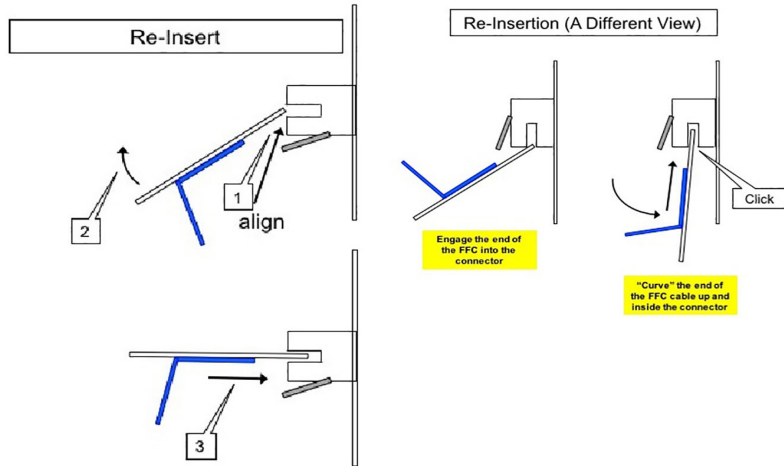

Figure 6 Proper FFC Cable Insertion.
3. Referring to Figure 6, grasp the grip tab of the FFC cable placing the back, or non-conductive Side, of the FFC cable against the edge of the connector and centered to the connector.